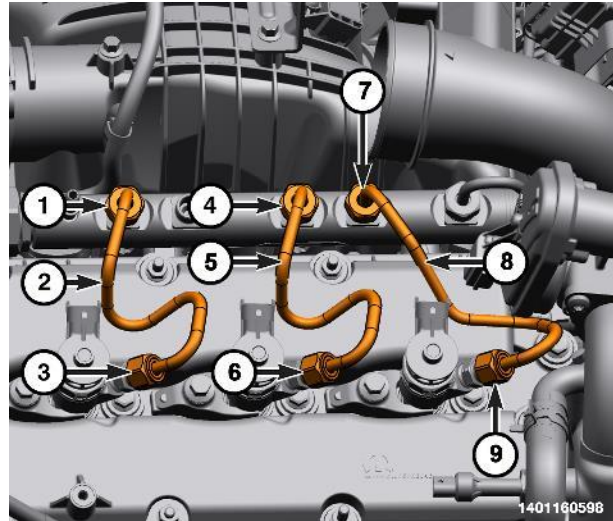

Figure 28 – Fuel Lines
13. Unscrew the union nuts (1 and 3) and remove cylinder No. 4 fuel tubes (2) (Figure 28).
15. Unscrew the union nuts (4, 6) and remove cylinder No. 5 fuel tube (5) (Figure 28).
17. Unscrew the union nuts (7, 9) and remove cylinder No. 6 fuel tube (8) (Figure 28).